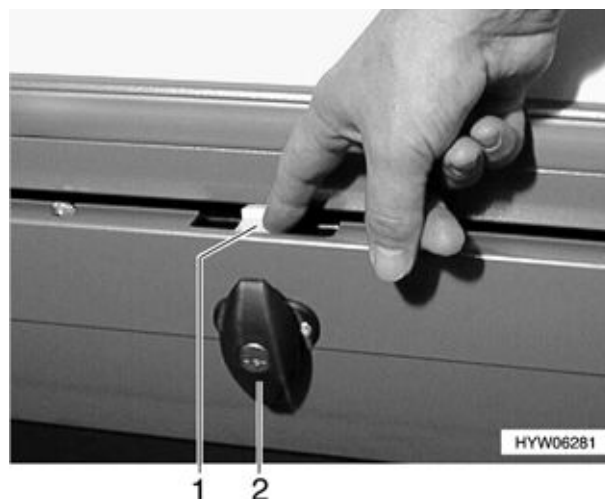

Fig. 34 Retainer on the underfloor sliding drawer
- Open the flap lock (Fig. 34,2) as described above.
- Push the retainer (Fig. 34,1) down, keep it pressed and pull out the underfloor sliding drawer.